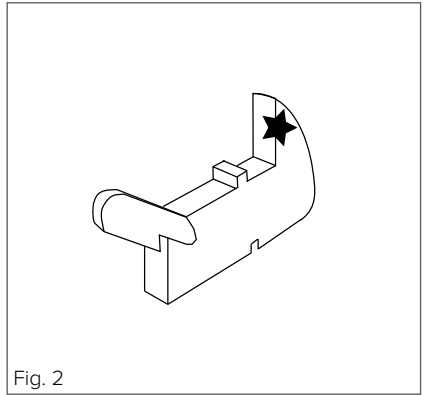

Fig. 2
- Hold the door to the appliance in the closed position and manoeuvre the hinges so that the part of the hinge, highlighted by the star in fig. 2, inserts into the hinge slot in the cavity frame